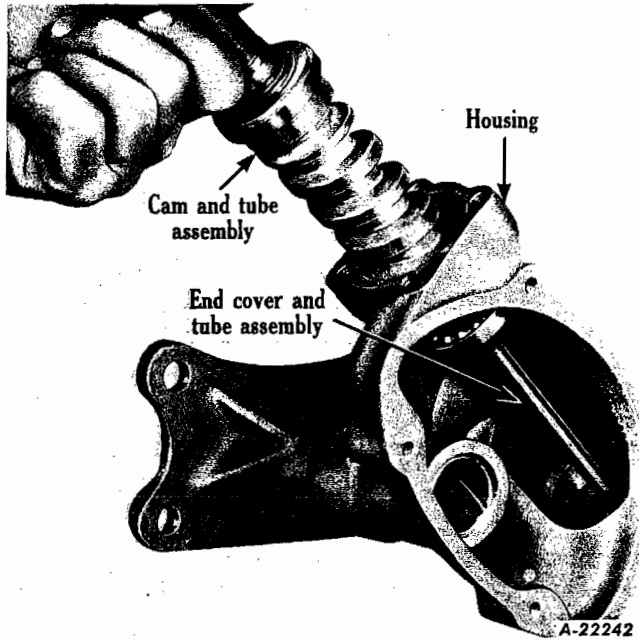

Fig. 10 - Removing cam and tube assembly with bearings
- (d) Remove cam and tube assembly, complete with bearings, from the housing (Fig. 10).
- (b) Place cam and tube assembly with bearings in the housing (Fig. 10).